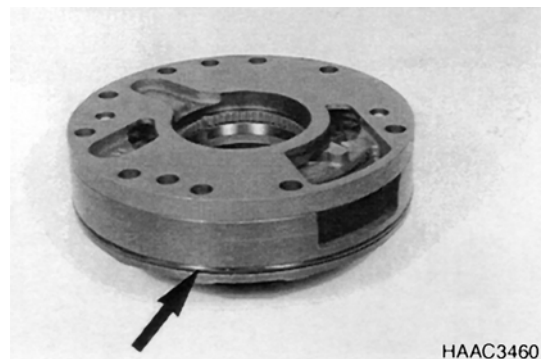

Figure 263
4. Install O-ring (Figure 263) and oil it.